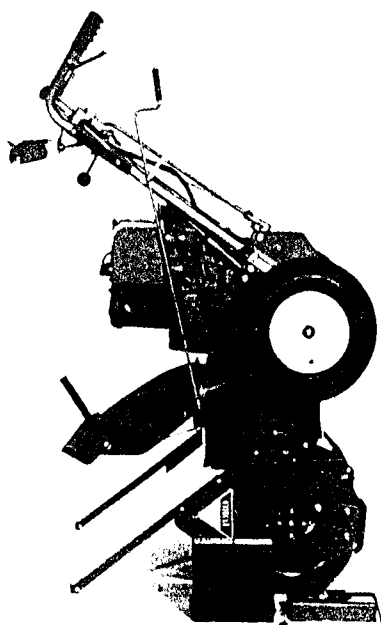

Figure 44
10. If snowthrower is equipped with the optional, drift breaker storage bar, the snowthrower may be stored in upright position (Fig. 44). However, remove battery from mounting plate, and make sure to drain gas before tipping snowthrower upright.